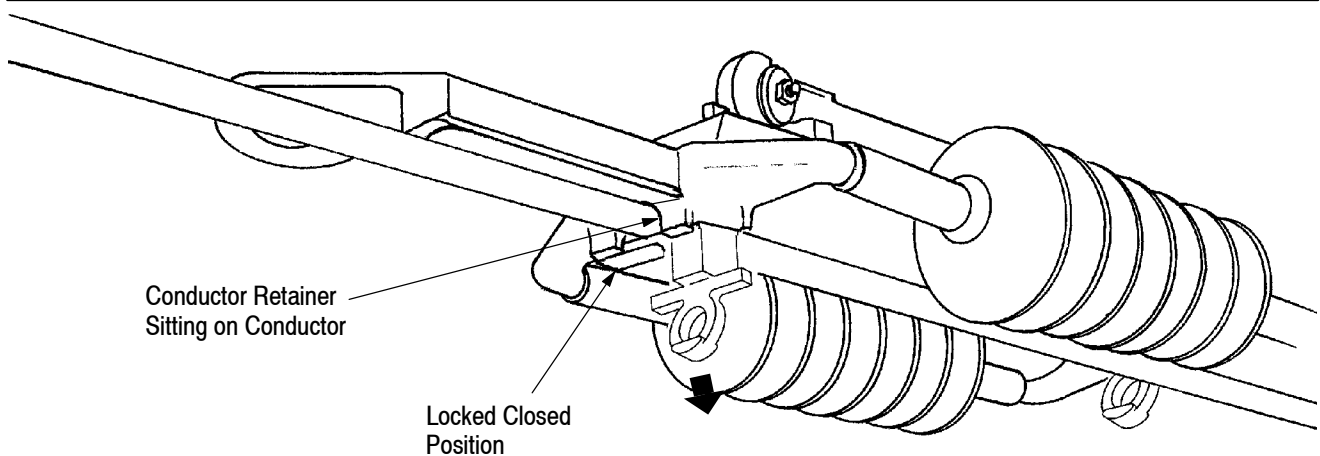

Figure 4
5. Rest the assembly on the clean conductor so that the conductor retainers sit on the conductor. Pull and pivot each eye keeper 180° to the locked closed position. See Figure 4.